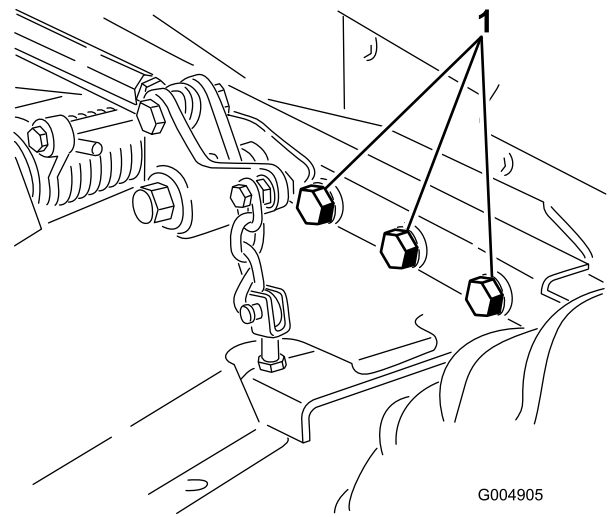

Figure 60
5. Check all fasteners for looseness and tighten them as necessary. Torque the 6 bolts securing the mower deck frame to the traction unit (Figure 60) to 359 N·m (265 ft-lb).